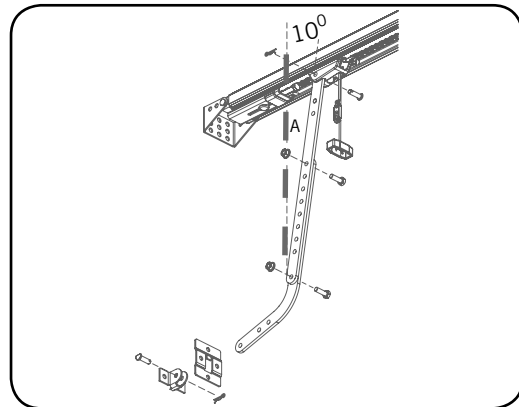

Fig. 20
- Assemble the bent and straight arms with bolts and nuts supplied in the accessory pack (**Fig. 20**). Always use both bent and straight arms.
- Connect the assembled arm to the bracket and the disengaged trolley with clevis and snap pins. The angle "A" must be more than 10° (**Fig. 20**).